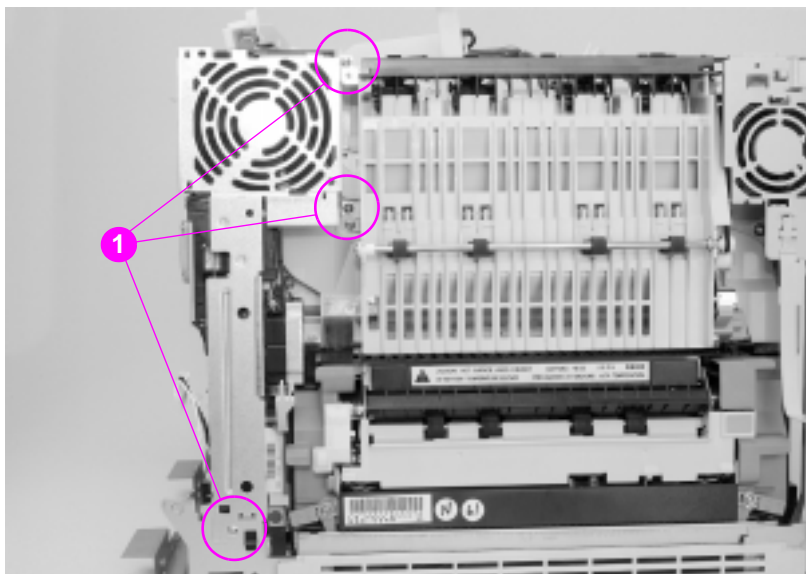

Figure 6-34 Large fan removal and replacement (1 of 2)
- 2 Remove the four screws, from the large fan cover and remove the cover shown in Figures 6-34 and 6-35 (callout 1).